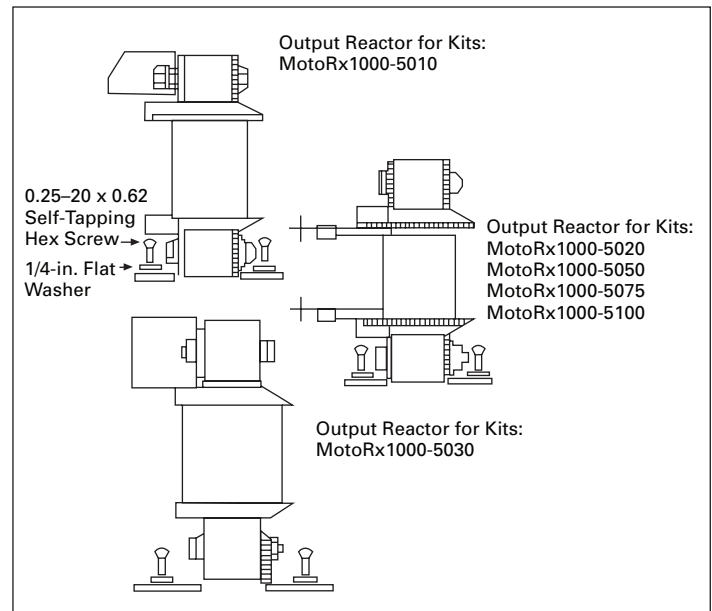

Figure 5. Output Reactor Mounting
3. Mount the output reactor to the drive housing, using the four 0.25-20 x 0.62 self-tapping hex screws and 1/4-inch flat washers, as show in **Figure 5** below.